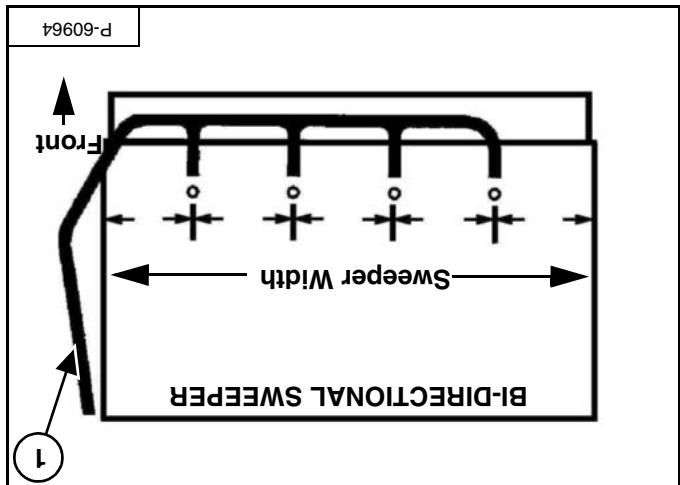

Figure 18
Install the remaining hose (item 1) [Figure 18] on the left fitting and cut the length to reach the lift arm coupling.
Install the four fittings and nozzles in the pre-drilled holes [Figure 18].